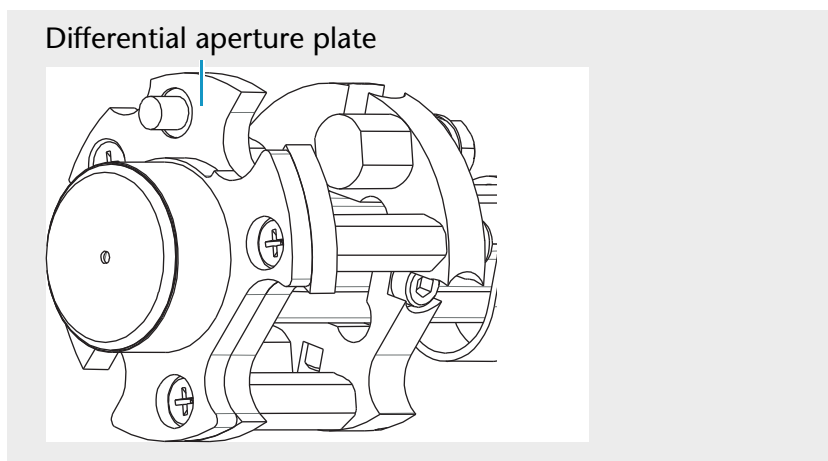

Fig. 68 View of differential aperture plate
- ▶ Unscrew the three screws that connect the differential aperture plate to the quadrupole. See Figure 68.